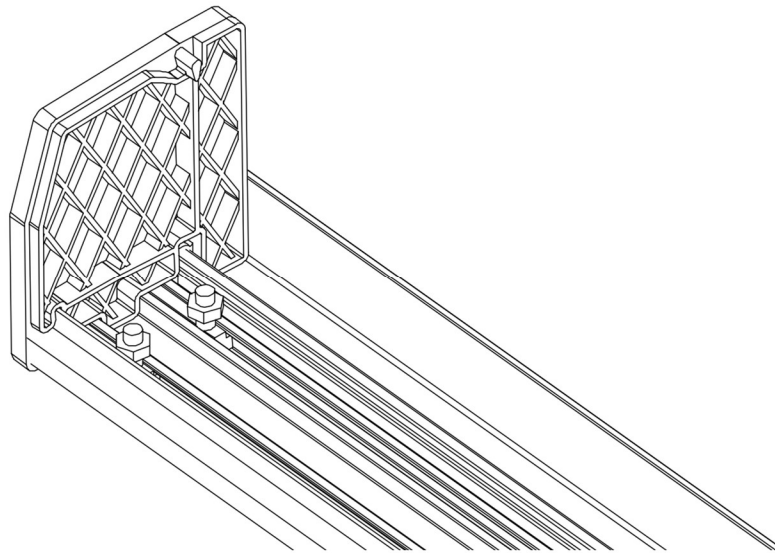

Figure 28: Insert the end caps.
- Each end cap has two sliders. Loosen the nuts and push the sliders into the two tracks in the base (Figure 28). You may need to use a hammer to gently tap the end caps into position.